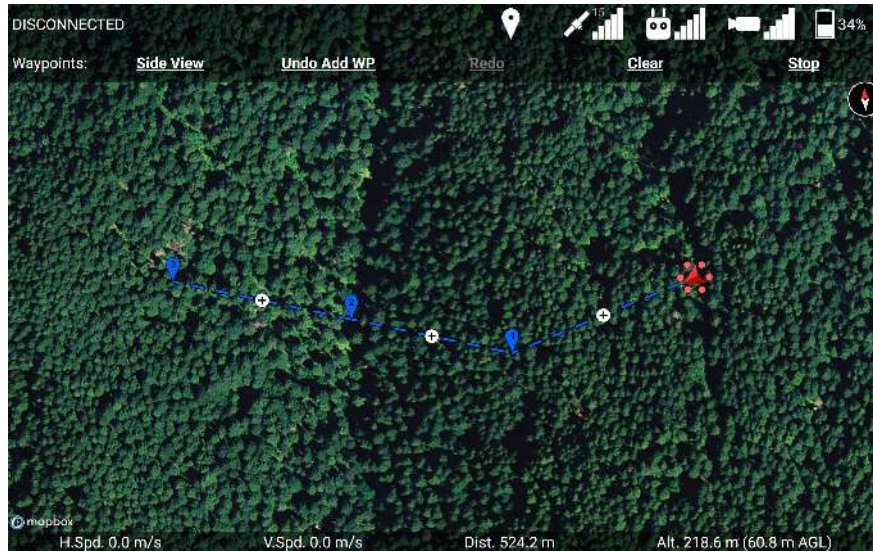

Figure 84: The path through waypoint 2 doesn't change heading, which allows you to move waypoint 2 left and right in the side view.
Because the newly-added waypoint 2 was added at the midpoint between waypoints 1 and 3, the path segments into and out of waypoint 2 are aligned in the same direction, as shown in Figure 84. The app doesn't require the waypoints to be perfectly aligned in order to move them left and right in the side view, so you'll be able to use this feature even if you drag the waypoints into a line with your finger in the top-down map view. Moving waypoint 2 left and right in the side view will move it closer to the previous waypoint (1) or closer to the following waypoint (3), but it will stay along the line that connects the two.